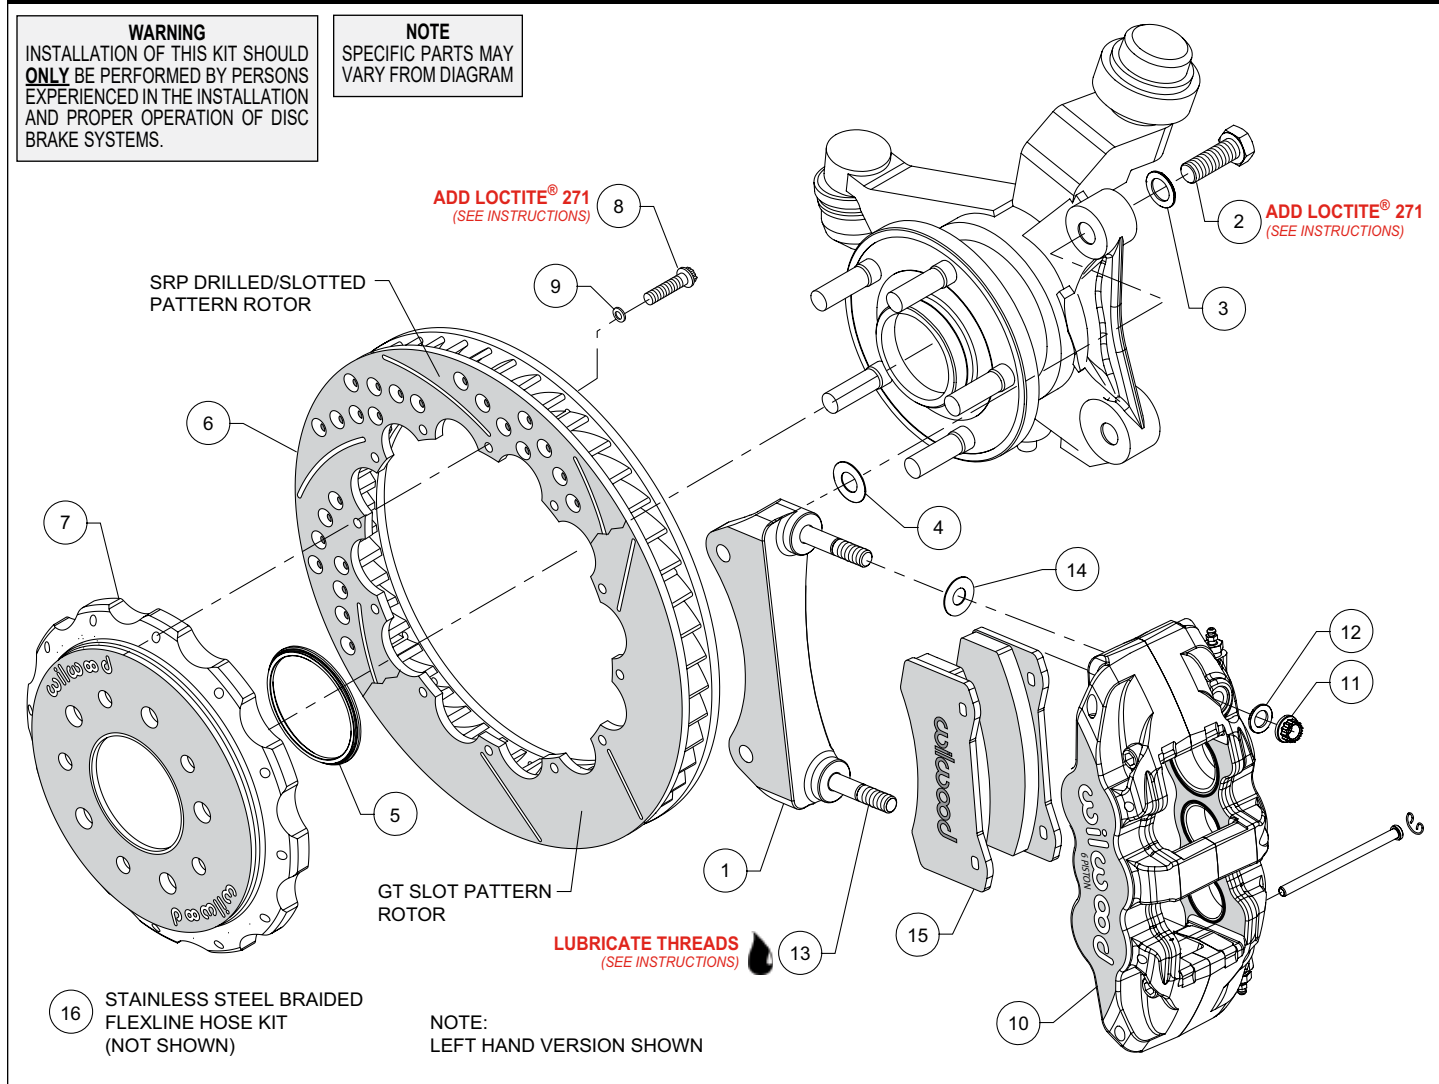
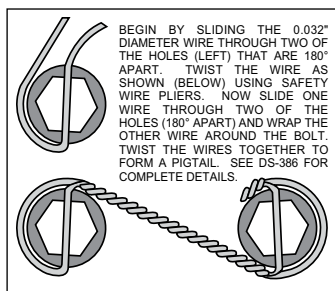

Figure 1. Typical Installation Configuration
Figure 3. Safety Wire Diagram
**NOTE:** Numbers in parenthesis refer to the parts list, and Figure 1 on the preceding pages.
- The caliper mount bracket (1) should initially be installed with clean, dry threads on the mounting bolts. Orient the bracket as shown in Figure 1 and Photo 1 and install using mount bolts (2) and washers (3). Initially place one .029" thick shim (4) on each bolt between the bracket and upright, Figure 1. Temporarily tighten the mounting bolts. **NOTE:** The bracket must fit squarely against the mount bosses on the upright. Inspect for interference from casting irregularities, machining ridges, burrs, etc. Later, after the caliper alignment has been checked, the mount bolts will be secured using red *Loctite*® 271.
- Orient the rotor (6) and the hat (7) as shown in Figure 1 and Photo 2. Attach rotor to hat using bolts (8) and washers (9). Apply red *Loctite*® 271 to the bolt threads and torque to 155 in-lb using a criss-cross pattern. For an added measure of security, the bolts may be safety wired using standard 0.032 inch diameter stainless steel safety wire as shown in Figure 3. Please refer to Wilwood's data sheet DS-386 (available at [www.wilwood.com/Pdf/DataSheets/ds386.pdf](http://www.wilwood.com/Pdf/DataSheets/ds386.pdf)) for complete safety wire installation instructions.
- Slide the rotor registration adapter (5) onto the axle register on the axle hub with the smaller O.D. facing outward, Figure 1 and Photo 3.
- **NOTE:** This kit contains distinct right and left hand calipers that must be mounted in a specific direction, as described below. Lubricate the caliper mounting studs (13) with lightweight oil. Initially place one .030" thick shim (14) on each stud between the caliper and the bracket, as shown in Figure 1 and Photo 6. Mount the caliper (10) onto the bracket (1) using lock nuts (11) and washers (12), Figure 1. Temporarily tighten the lock nuts. Ensure that the caliper is mounted so the largest pistons are at the rotor exit end of the caliper, in relation to the direction of the rotor. View the rotor through the top opening of the caliper. The rotor should be centered in the caliper, Photo 7. If not, adjust by adding or subtracting shims (4) between the bracket and the upright. Always use the same amount of shims on each of the two mounting bolts. Once the caliper alignment is correct, remove the bracket mounting bolts (2) one at a time, apply red *Loctite*® 271 to the threads, and torque to 77 ft-lbs.
sliding out the pins. Insert the brake pads (15) into the caliper from the bottom, Figure 1 and Photo 8. With the friction material facing the rotor, secure the brake pads in place with the pad retaining pins and clips, Figure 1 and Photo 9. Reinstall the caliper onto the caliper mounting bracket and temporarily tighten the lock nuts. Check that the top of the brake pad is flush with the outside diameter of the rotor, Photo 10. If not, adjust by adding or subtracting shims (14) between the caliper and the bracket. After the caliper pad height is set, torque the caliper lock nuts (11) to 47 ft-lb.